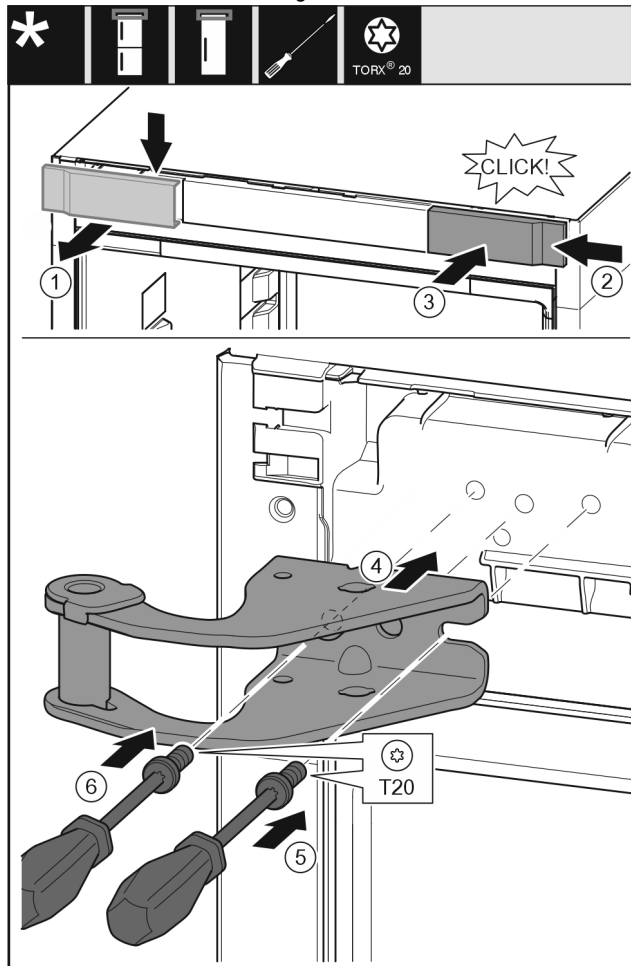

Fig. 10
- Take off the cover to the front from above. Fig. 10 (1)
- Rotate the cover 180° and clip onto the other side from the right. Fig. 10 (2)
- Latch the cover into place. Fig. 10 (3)
- Position the upper bearing bracket. Fig. 10 (4)
- Insert the screw with a T20 screwdriver and tighten it. Fig. 10 (5)
- Insert the screw with a T20 screwdriver and tighten it. Fig. 10 (6)